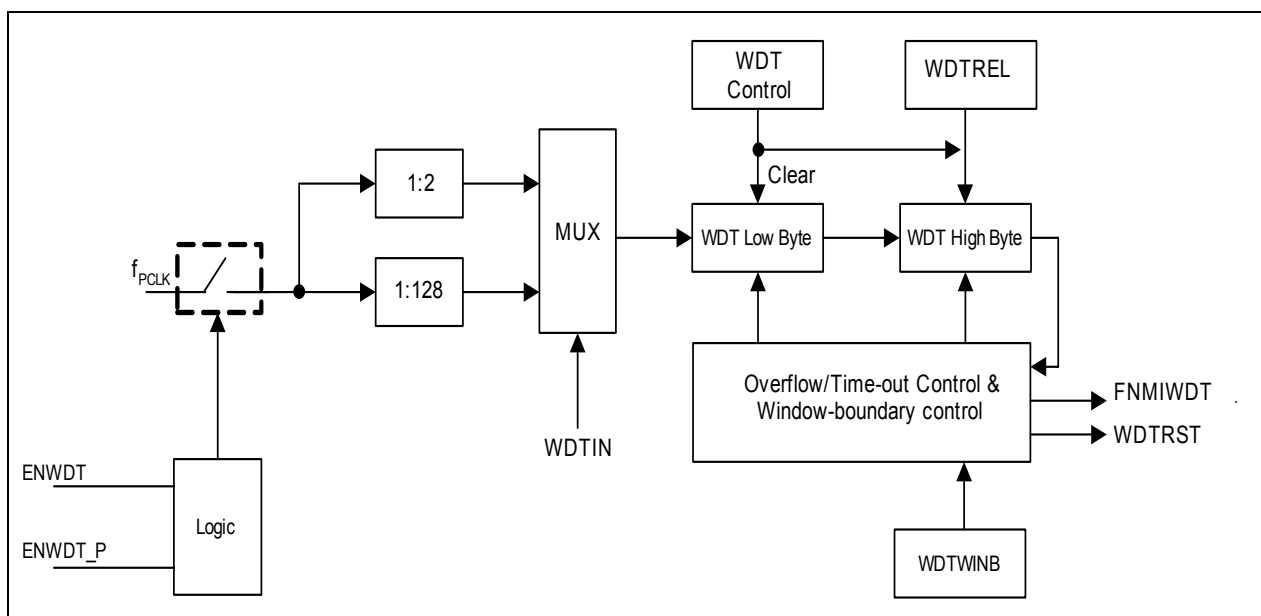

**Figure 24 WDT Block Diagram**
**Figure 24** shows the block diagram of the WDT unit.